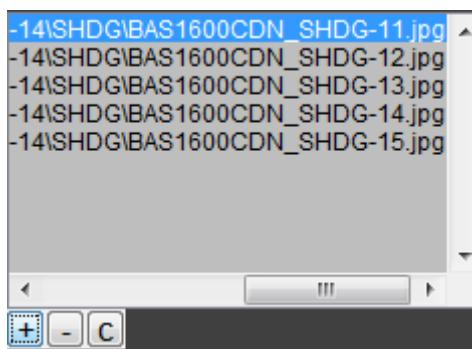

Figure 60. Screenshot of File List Box
2. Click on any file in **FILE LIST** box to see the analysis results for that image and then use the keyboard **up/down** arrow keys to see the other camera images and their analysis results (Figure 60).